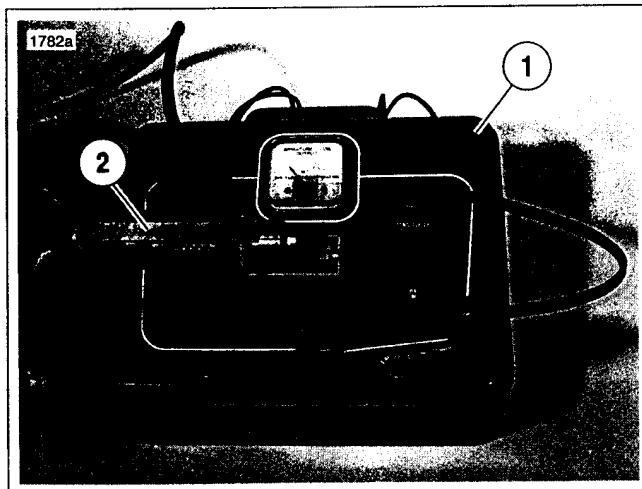

Figure 5-16. Shorted Armature Test Using Growler
10. See Figure 5-16. Check for SHORTED ARMATURE with a growler.
- Place armature on growler (1).
- Hold a thin steel strip (2) (hacksaw blade) against armature core and slowly turn armature.